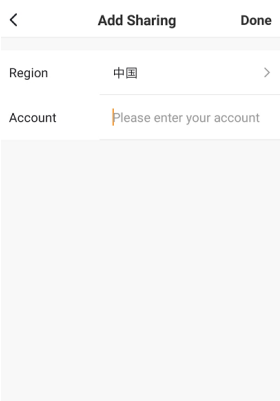

Fig.9
3. After entering the account to be shared, the device information will appear on the app page of the account to be shared, and the remote operation device can be realized, as shown in Fig. 9.